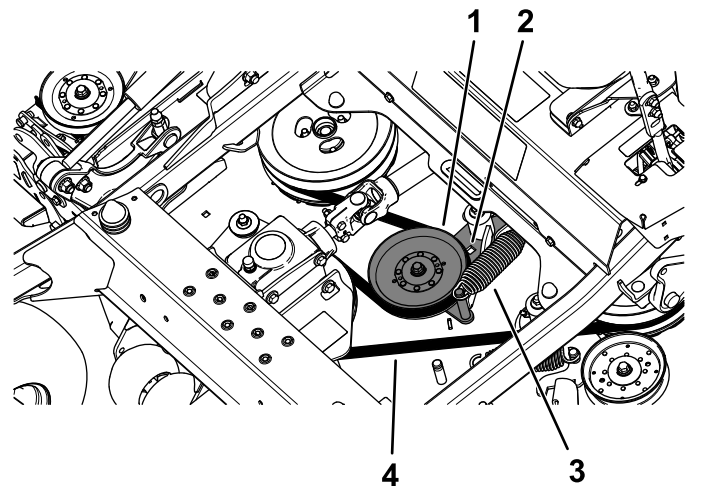

Figure 63
5. Use a ratchet in the square hole in the idler arm to remove tension on the idler spring (Figure 63).
6. Remove the belt from the mower deck pulleys (Figure 63).